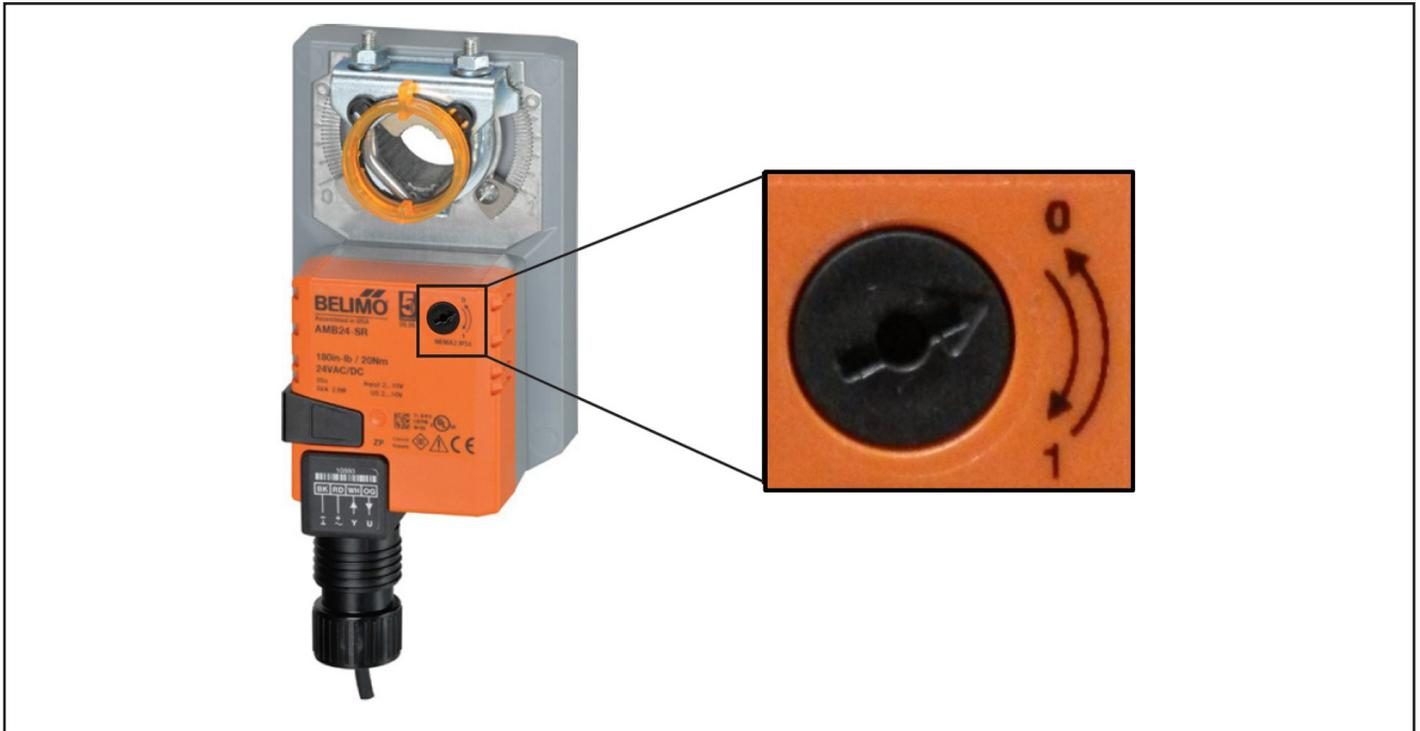

Figure 18. Damper Actuator Setting
- Set the damper actuator rotation switch at 0. See Figure 18.